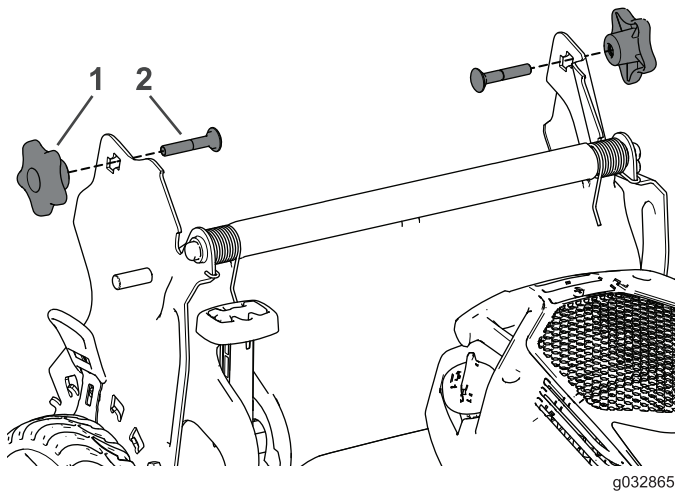

Figure 27
3. Insert the carriage bolt (with the bolt head toward the inside) through the handle bracket and the upper hole in the handle end. Ensure that the square edges of each carriage bolt fits into the upper or lower square hole in its related handle bracket (Figure 27).